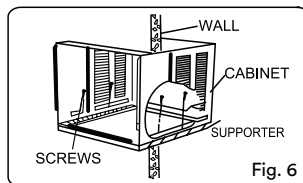

Fig. 6
2. Remove shipping pad from around compressor before operation and make sure the discharge points to the drain pan are aligned before the chassis is pushed into the cabinet (See Fig. 6).